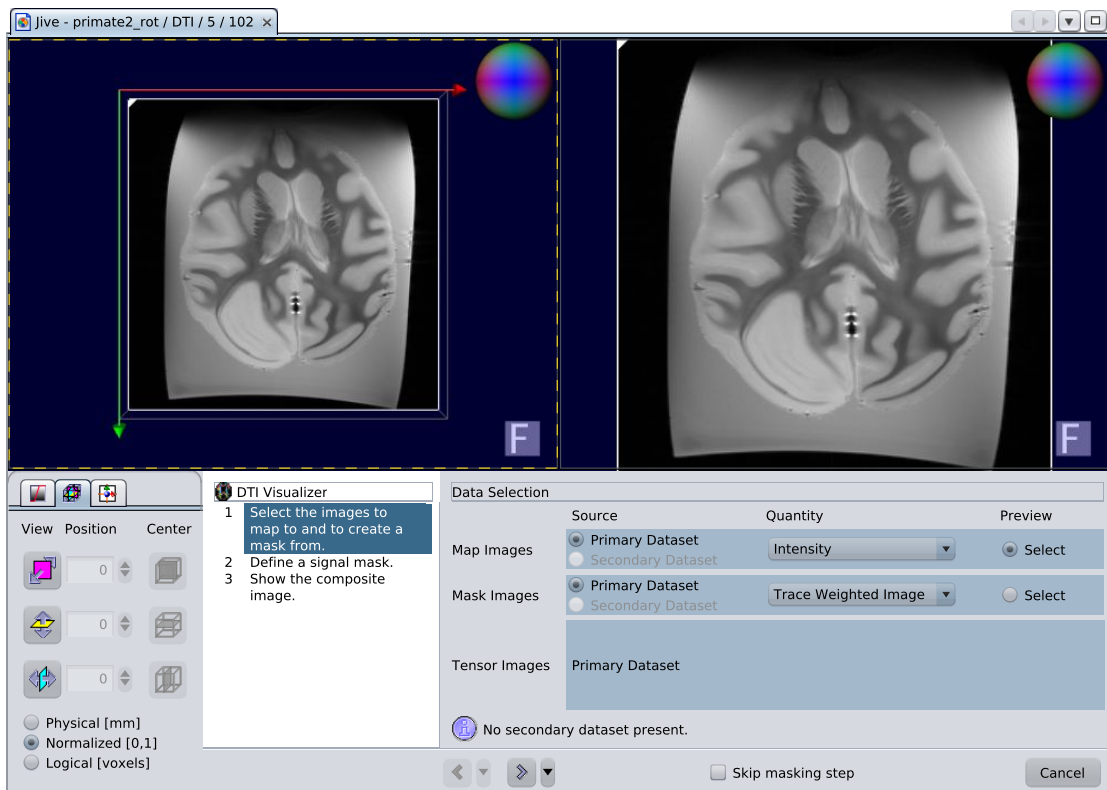

Figure 1.165: Select Map and Mask Images
- select a morphology image where the wizard will map color coded tensor data onto, see Map Images section in [Figure 1.165 \[▶ 200\]](#). By default the intensity image is used as base to map tensor data onto.